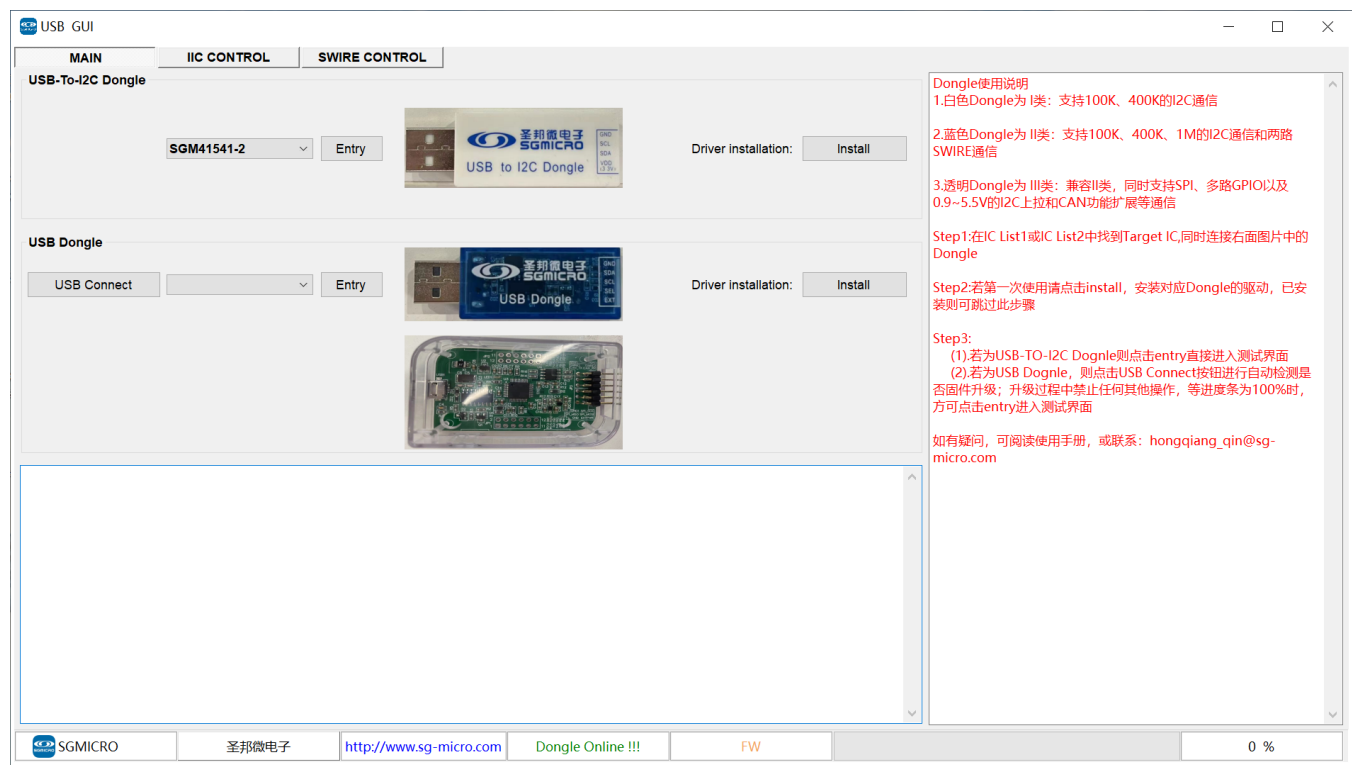
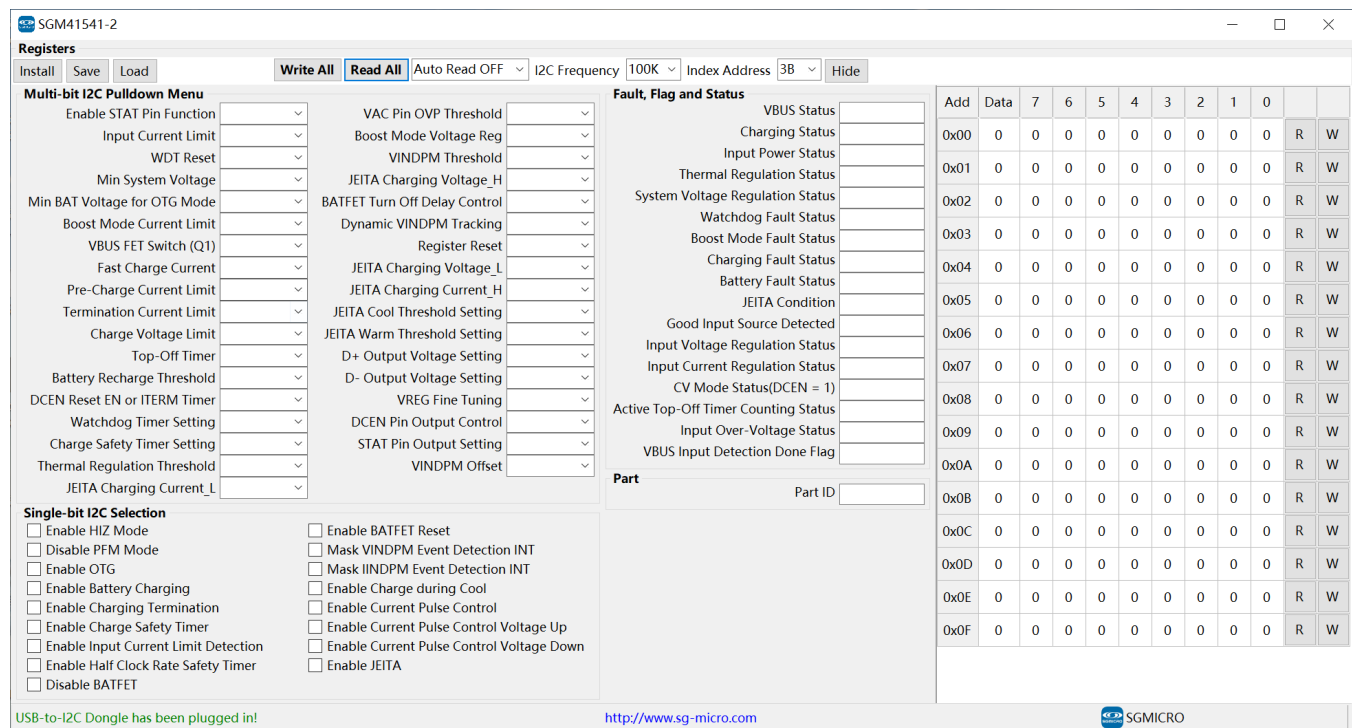

Figure 2. SGM USB GUI Interface
Figure 3. GUI Interface for SGM41541/2 Demo Board
- 3) Launch the GUI software and select the target IC SGM41541/2 as shown in Figure 2. Then click the **Entry** button to enter the GUI interface for SGM41541/2 demo board, as shown in Figure 3. If the Dongle is connected properly, the bottom left corner of the page will display "USB-TO-I2C Dongle has been plugged in!", otherwise it will display "USB-TO-I2C Dongle has been plugged out!".
Base on the GUI interface for SGM41541/2 demo board as shown in Figure 3, verify the I²C communication according to the following steps: